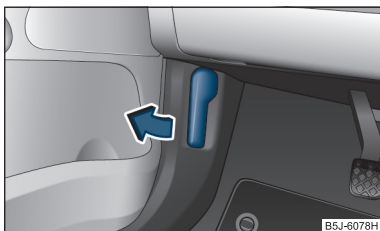

Fig. 138 Bonnet release lever
- Pull the unlocking lever on the left below the dash panel ⇒ fig. 138.
- Unlock the bonnet ⇒ fig. 138.